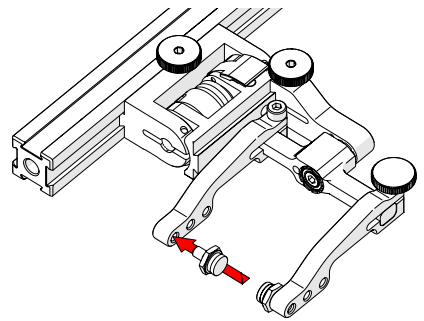

Fig. 46 - Place pivot buttons
4. Using the supplied 3/8 in wrench (Fig. 20), place the pivot buttons as required (Fig. 46).